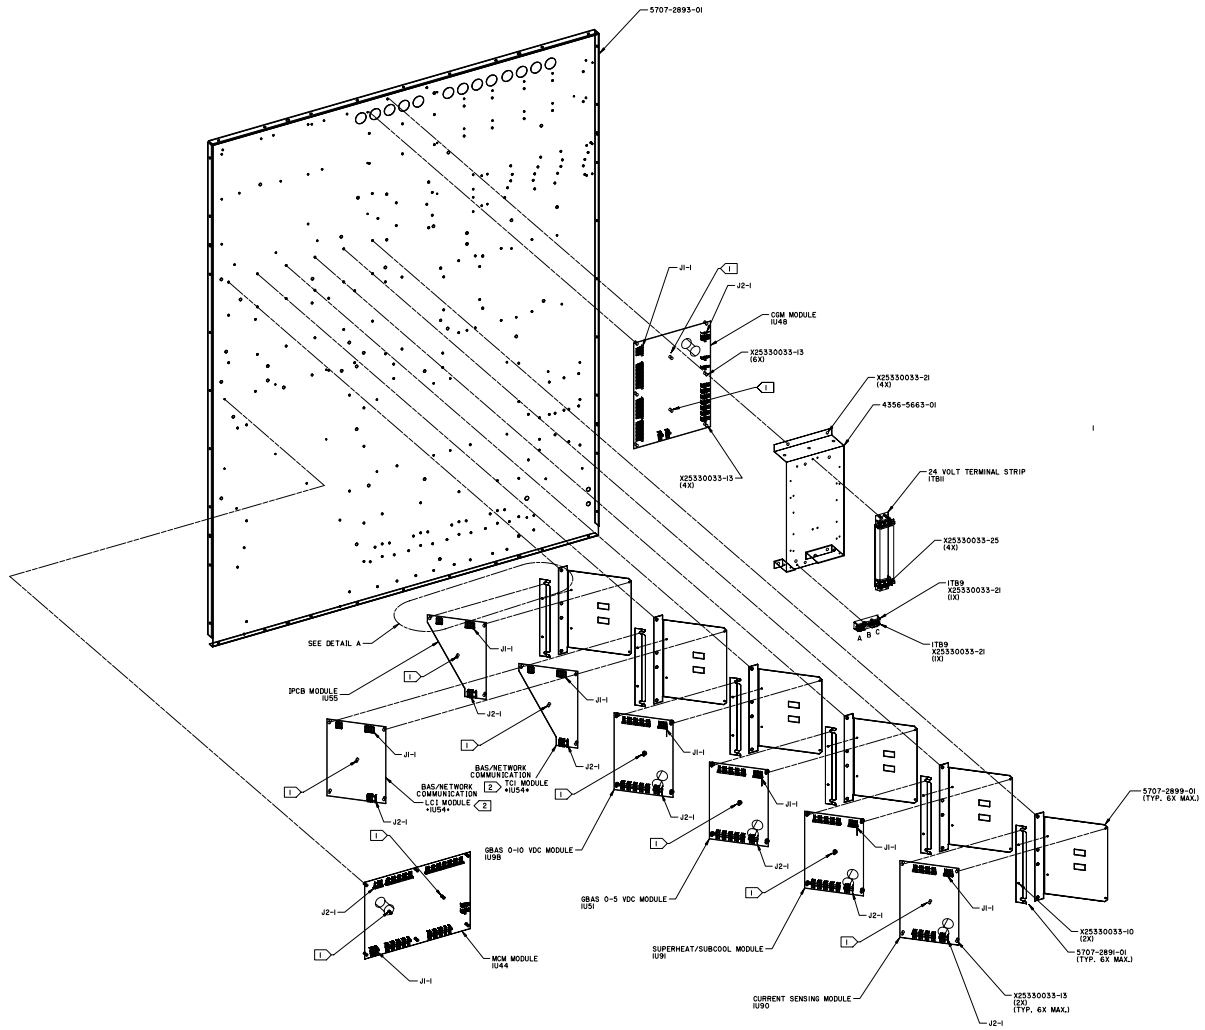
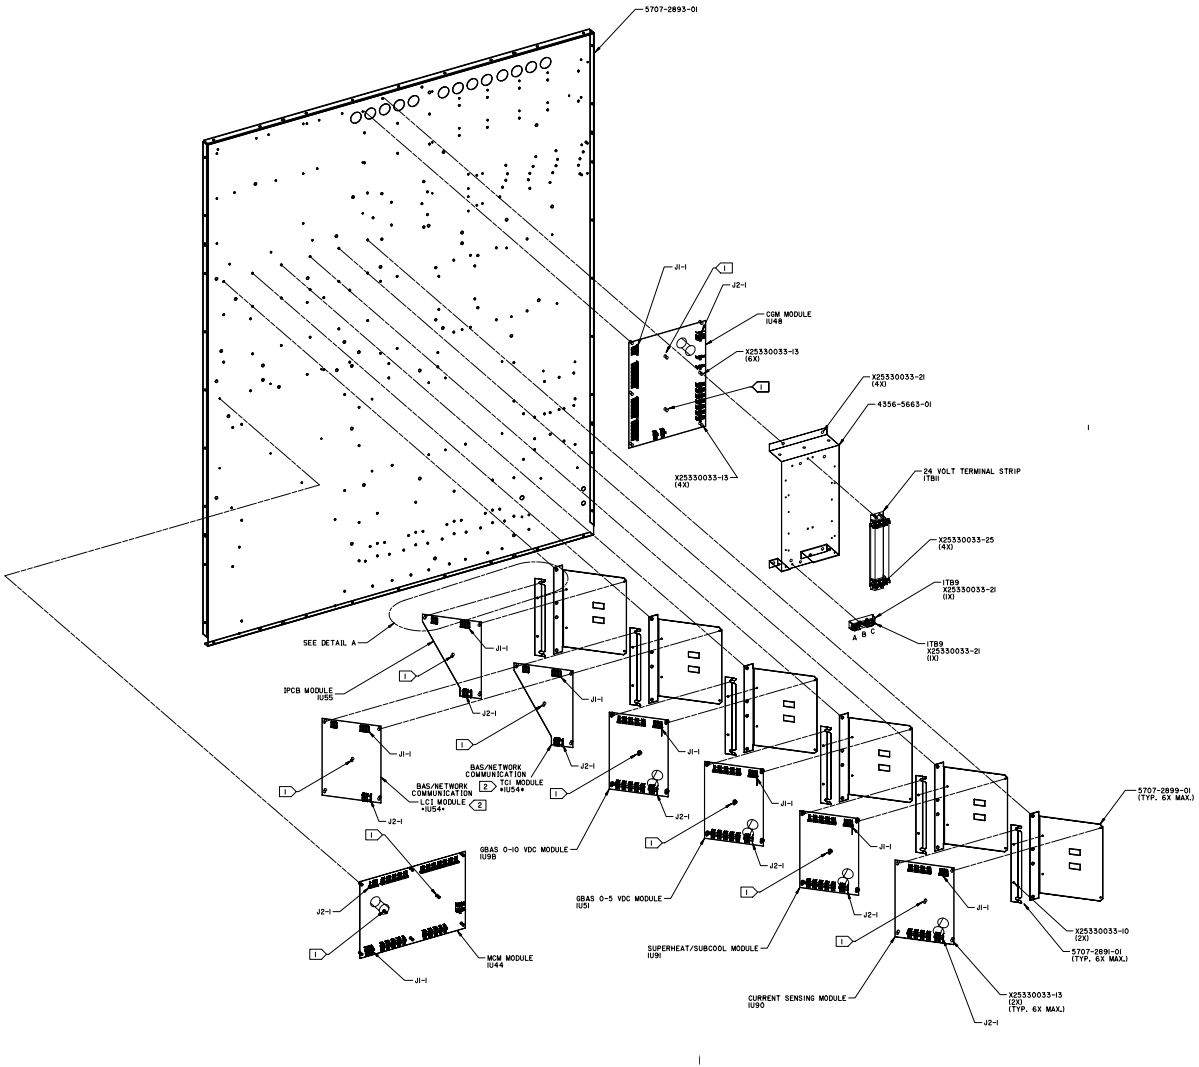

Figure 1 20-30 Ton CGAF Units
Figure 2 40-60 Ton CGAF Units
LonTalk devices are given a unique address by the manufacturer. This address is called a Neuron ID. Each LCI-C controller can be identified by its unique Neuron ID, which is printed on a label on the controller (see figure 1). The Neuron ID is also displayed when communication is established using Tracer Summit or Rover service tool. The Neuron ID format is 00-01-64-1C-2B-00.
2. Using 3 #8-32 x 1/2 inch mounting screws from the kit, align the mounting holes in the mounting bracket up with the holes in the control panel mounting plate. Refer to Figure 1 and Figure 2 for proper orientation.